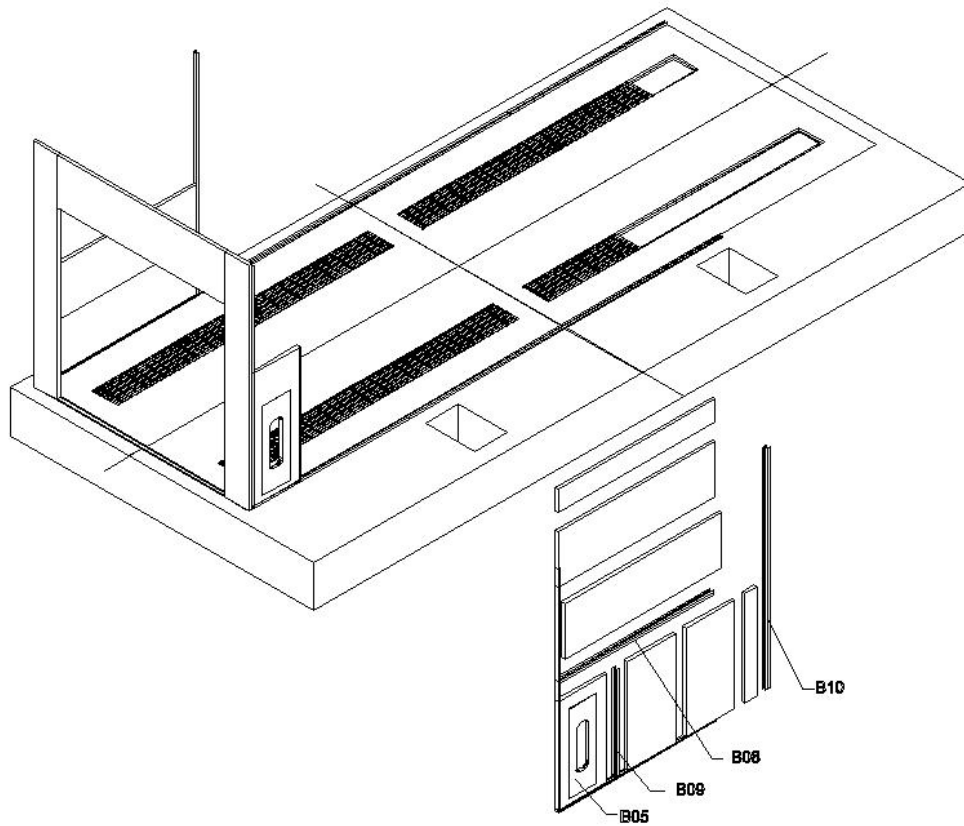

Fig. 2.5
3) Take the Front door frame on to the front panel of the basement by two workers, then one worker holds the door frame and another worker takes the safe door and one wall panel on the other side, connect them to the door frame with nails. shown in Fig.2.5. So the door frame can be stand steadily.